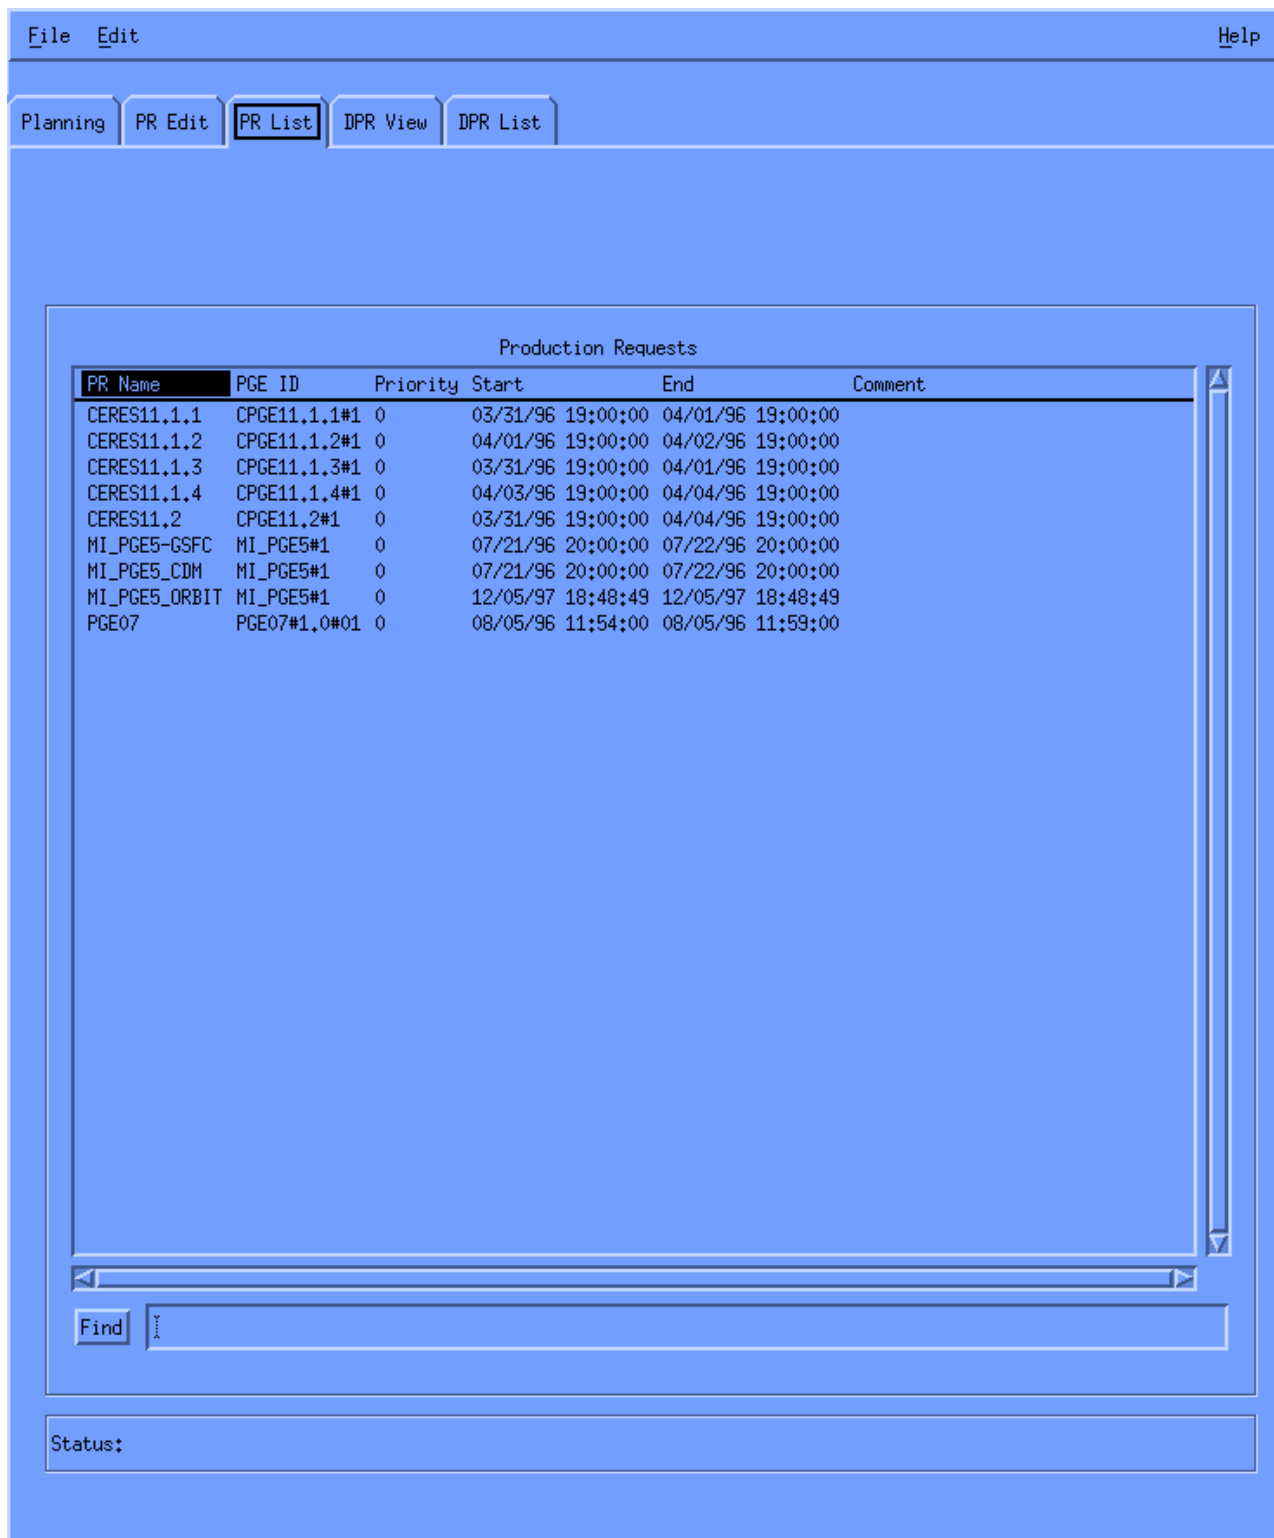

Figure 14.1.3-1. PR List GUI.
- The PR List page will be displayed as shown in **Fig. 14.1.3-1**.